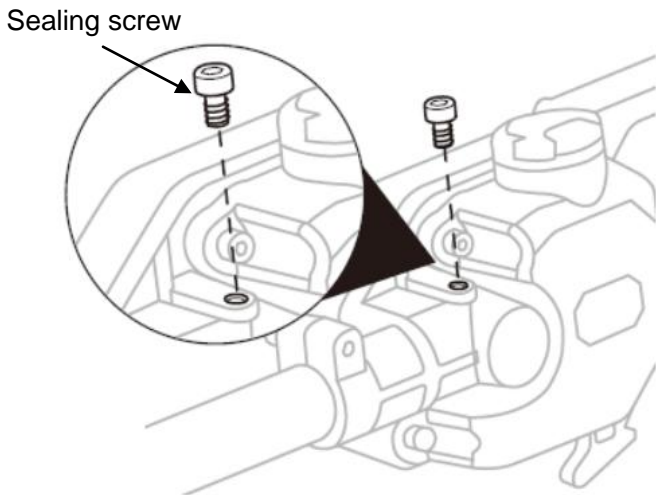

Fig. 27
1. Position the pole saw attachment on a firm, flat surface so that the sealing screw is facing upwards (Fig. 27).